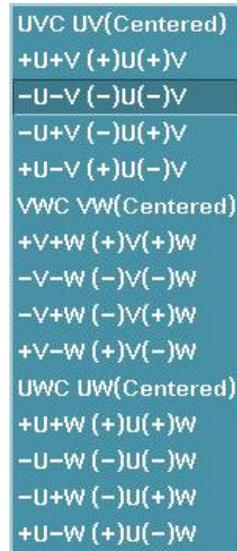

Figure 10.12.2 Plane Position
- Select the button below PLANE AT to select a plane location in the coordinate system, see Figure 10.12.2.